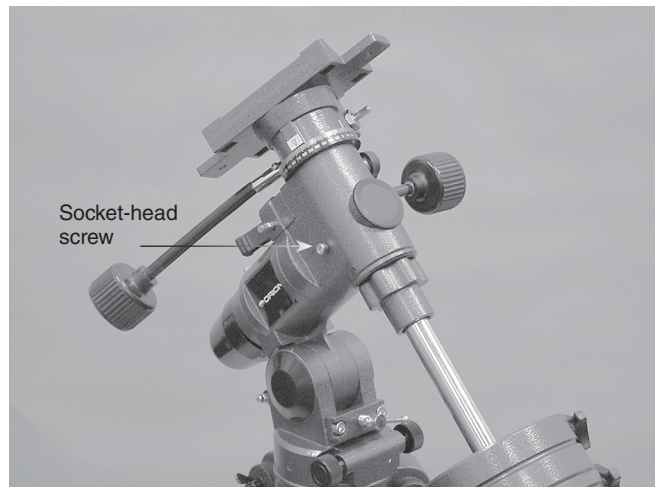

Figure 3: Remove the socket-head screw indicated on the mount.
3. Use the provided 4mm Allen wrench to remove the socket-head screw on the left side of the mount (**Figure 3**).